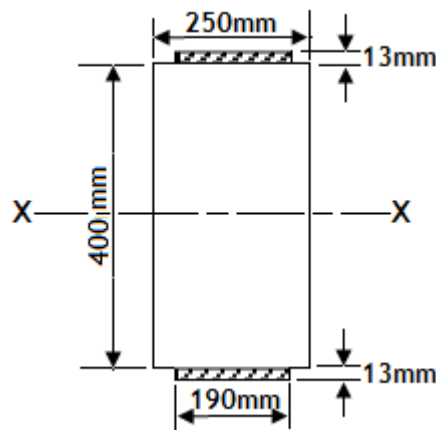

Figure Q7B
- (b) A composite beam consists of a **400 mm x 250mm** timber joist strengthened by the addition of two steel plates **190 mm x 13 mm**, as shown in **Figure Q7B**. The safe stress in the timber is **6.5 N/mm²**, the safe stress in the steel is **175 N/mm²** and modular ration, **n =20**.